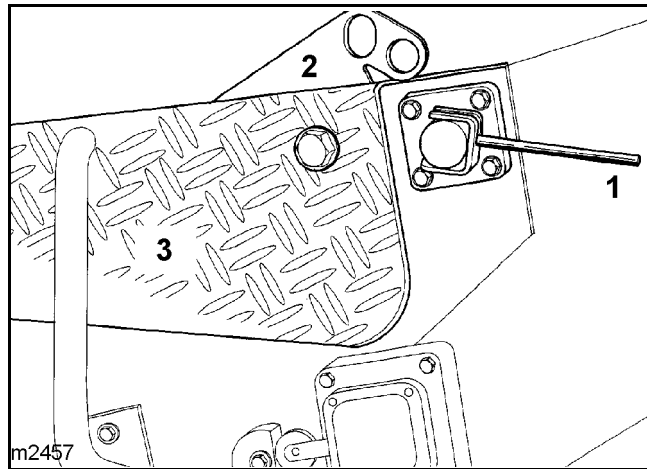

Fig. 181 Covering for hopper
- Unlock the safety bolt (1) (**Fig. 181**).
- Lift the cover (3) until the bolt can be slid into one of the holes on the locking bar (2).
The locking bar (2) (**Fig. 181**) has two holes because the possible opening angle of the cover varies in some machines.